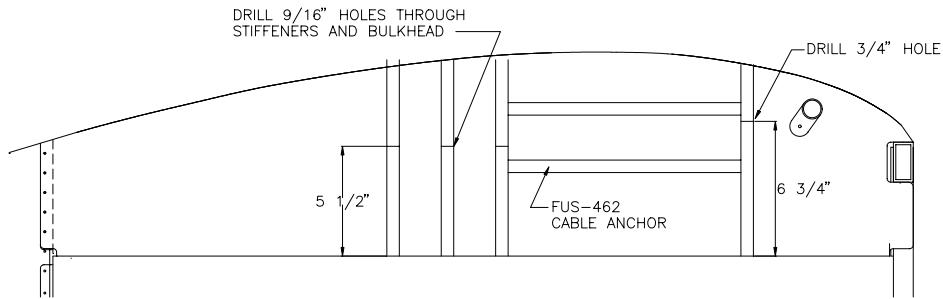

Figure 15.15.9
- 15) Find the FUS-462 Cable Anchor and position it between the first Cabin Roof bulkhead and the forward Bellcrank stiffener channel. Mark for trimming and trim the part. Figure 15.15.9.
- 16) Center the FUS-462 Cable Anchor over the two rivet lines previously drilled. Clamp the Cable Anchor in position and drill #40 holes through the Cable Anchor using the FUS-27 as a drill guide. Cleco as you go. Layout and drill 9/16" holes through each of the web surfaces of the bulkheads and stiffener channels. Also layout and drill a 3/4" hole on the bulkhead closest to the Flap controls. See figure 15.15.9 for hole locations.